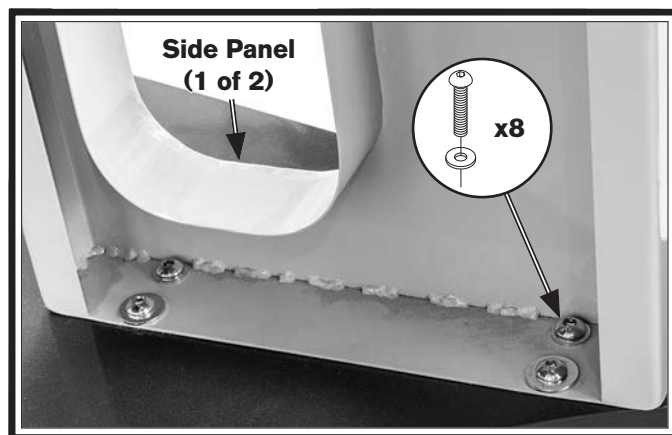

Figure 7. Side panels attached to base.
2. Attach (2) side panels to base with (8) ½"-18 x ½" button head cap screws and ½" flat washers (see **Figure 7**).